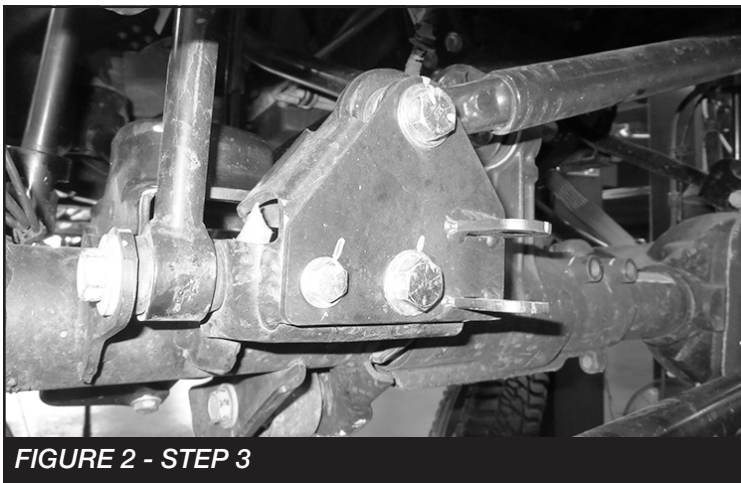

FIGURE 2 - STEP 3
3. Install FT50862 (Stabilizer bracket) onto the track bar bracket as well as the track bar using the hardware removed in the previous step. Torque the 9/16" and factory hardware to 121 ft-lbs and the 3/8" to 44 ft-lbs. **SEE FIGURE 2**